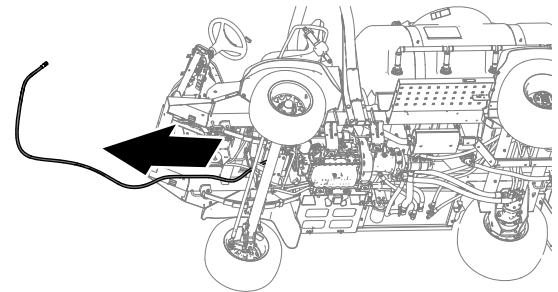

**Figure 56**
1. Disconnect the return hose for the steering valve from the T-fitting at the bottom of the hydraulic tank (Figure 56).